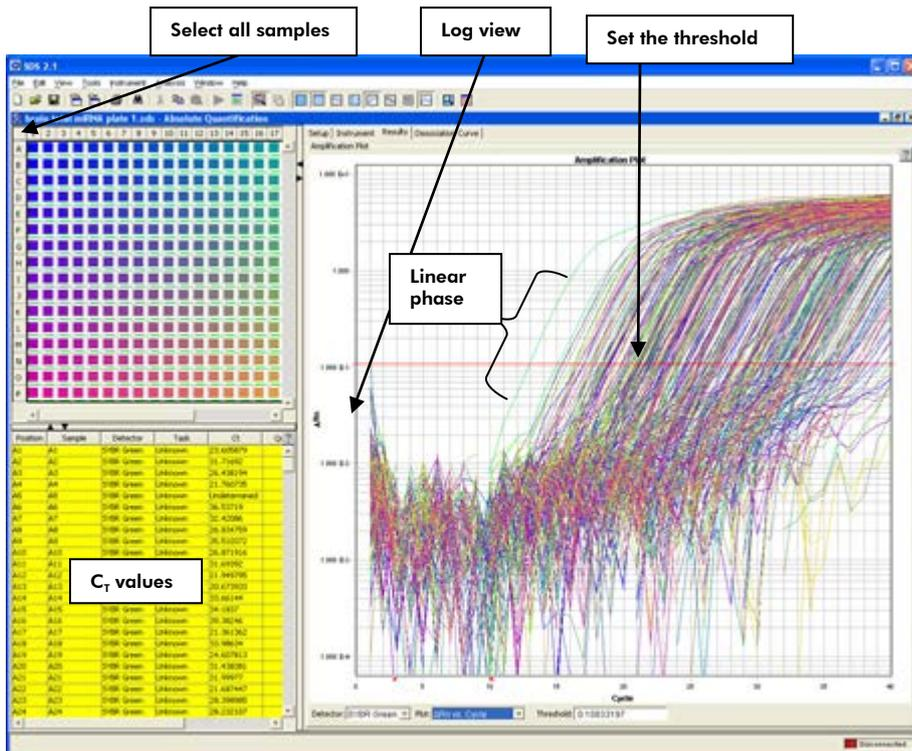

Figure 5. Setting the threshold.
13. Follow the procedures below to select the baseline and threshold manually (see figures 5 and 6):